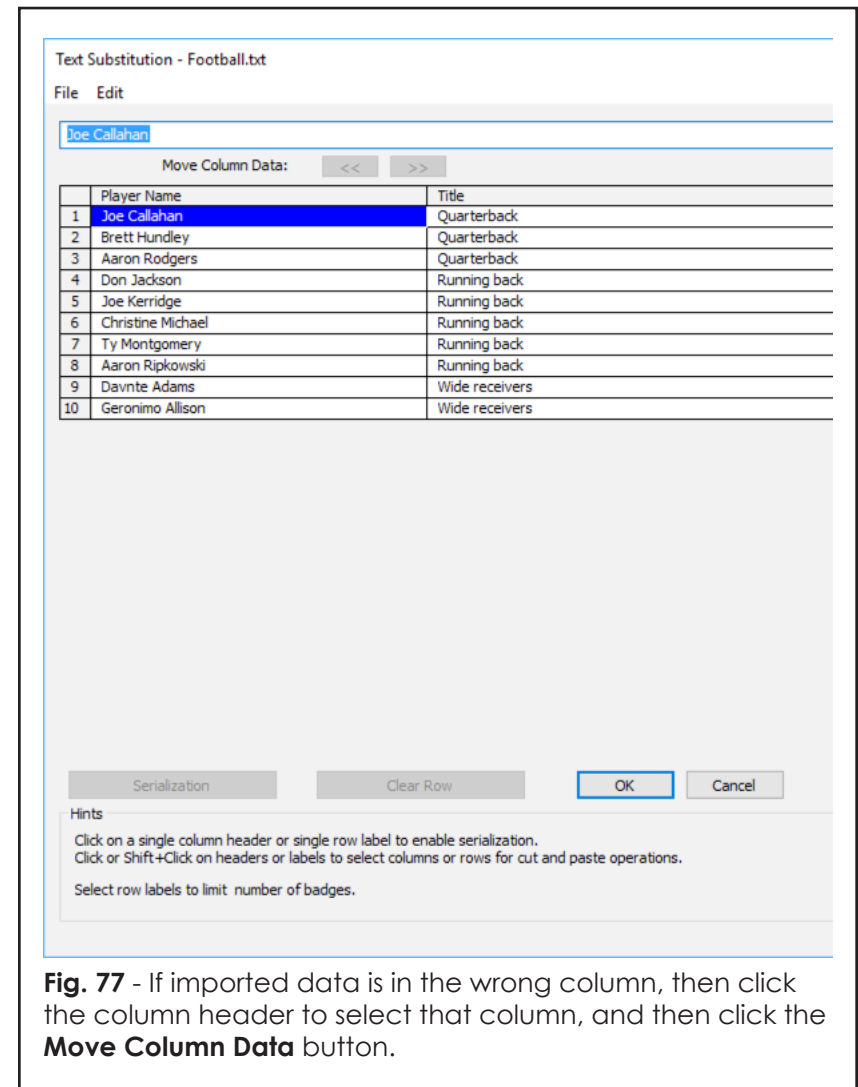

Fig. 77 - If imported data is in the wrong column, then click the column header to select that column, and then click the **Move Column Data** button.
17. Click **OK** to proceed to the **Text Substitution** dialog (Fig. 77).